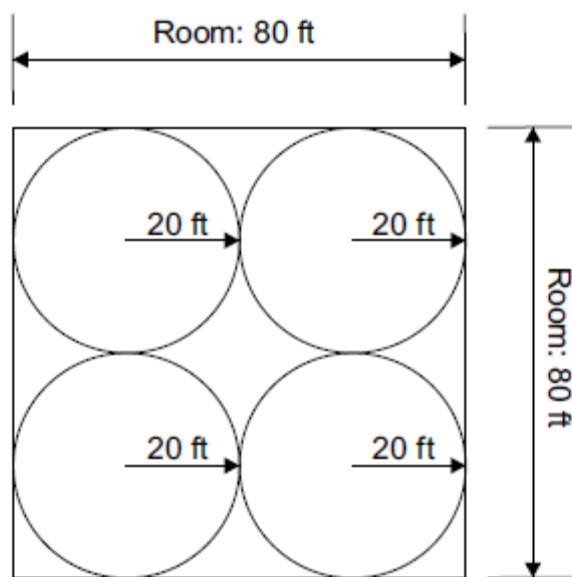

Figure 4 – Sensor Coverage Example
The oxygen depletion monitor with remote sensor option consists of one (1) controller and one (1) remote oxygen sensor as shown in Figure 4. Oxygen sensors are of the electrochemical cell type and have a measuring range of 0-25%. The oxygen sensors have a life expectancy of 2 years. The sensor must be discarded and replaced upon expiration of its life span.